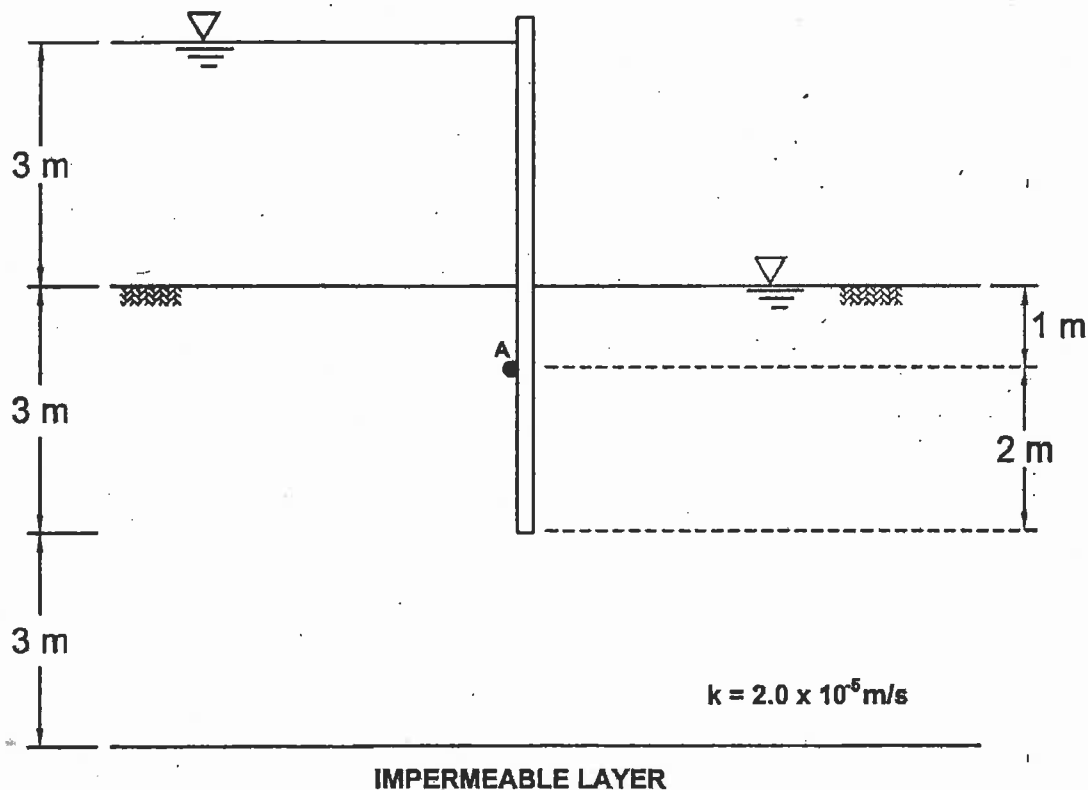

Figure 5
For the cutoff wall shown in Figure 5
- a. Establish the **flownet** (i.e. flow and equipotential lines) following all the rules (draw on Figure 5). (10 marks)